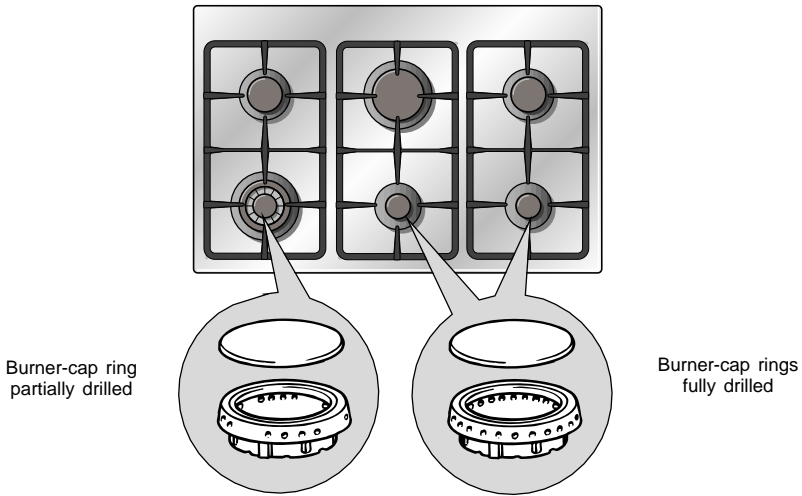

Fig. 7.1
**Special attention has to be paid in order not to exchange the housing of the small burners shown in fig. 7.1.**